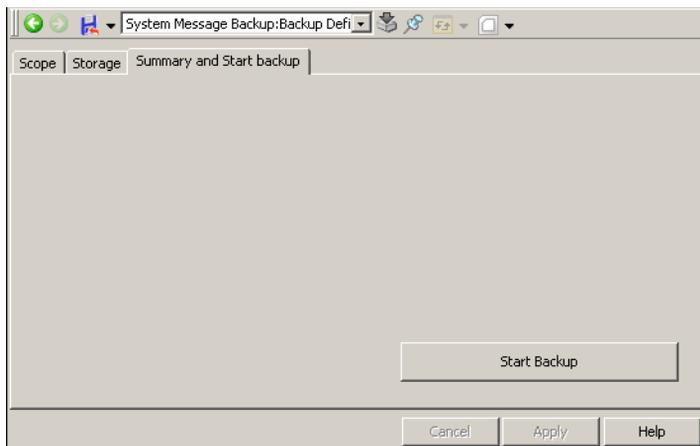

Figure 44. The Summary and Start Backup tab
7. Go to the **Summary and Start Backup** tab. Click the **Start Backup** button. See Figure 44 below.